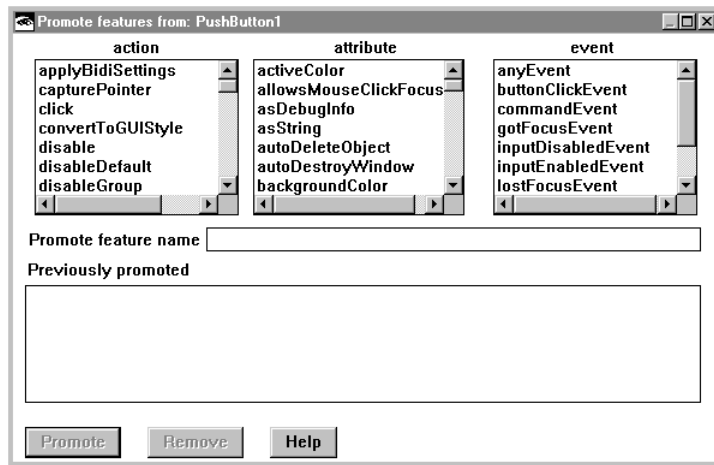

Figure 59. Promoting Features for a Push Button Part
5. Select **Promote Part Feature**. Visual Builder displays a window with three columns of features: one each for actions, attributes, and events. Figure 59 on page 155 shows the window that is displayed for a push button part.